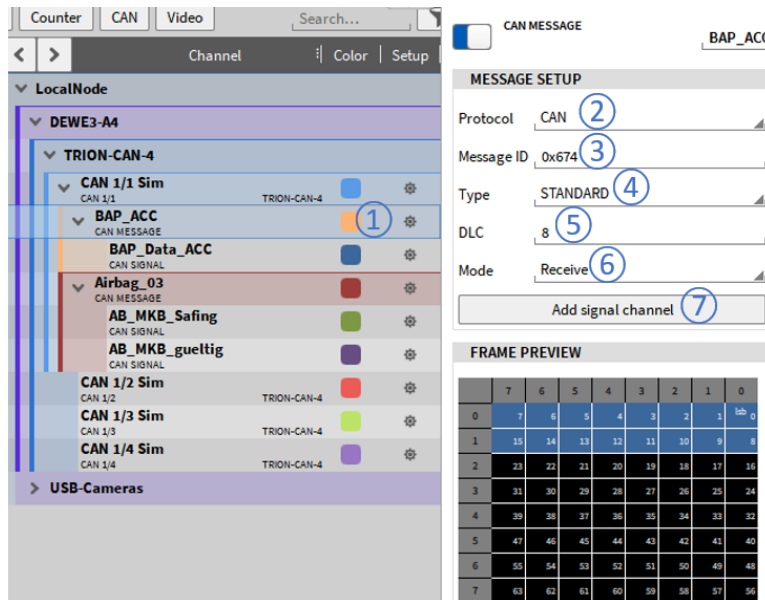

Fig. 7.201: CAN message channel setup
The CAN message setup can be accessed by pressing the gear button of the respective CAN message in the Channel List (see ① in Fig. 7.201).
- Protocol type (see ② in Fig. 7.201): CAN or J1939 or CAN-FD (if applicable)
- Message ID (see ③ in Fig. 7.201): The message's ID can be set from 0x00 to 0x7ff
- Message Type (see ④ in Fig. 7.201): Standard or Extended
- DLC (see ⑤ in Fig. 7.201): The DLC can be set from 0 ... 8 (...64 for CAN-FD)
- Mode (see ⑥ in Fig. 7.201): The Mode can be set from Receive (Receiving CAN data) to Transmit (Outputting OXYGEN data over CAN).
- Add signal channel (see ⑦ in Fig. 7.201):